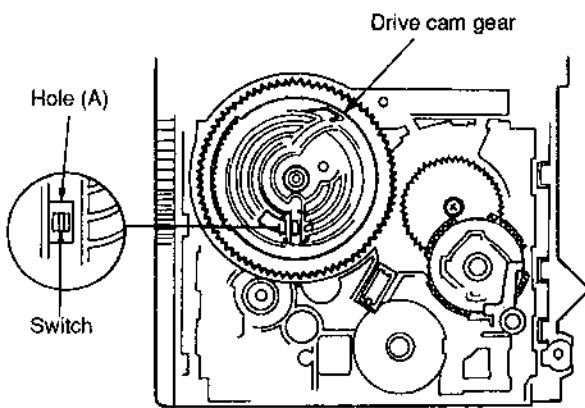

Fig.4
7. Align the hole (A) of the drive cam gear with the switch, and then insert the drive cam gear. (See Fig. 4)